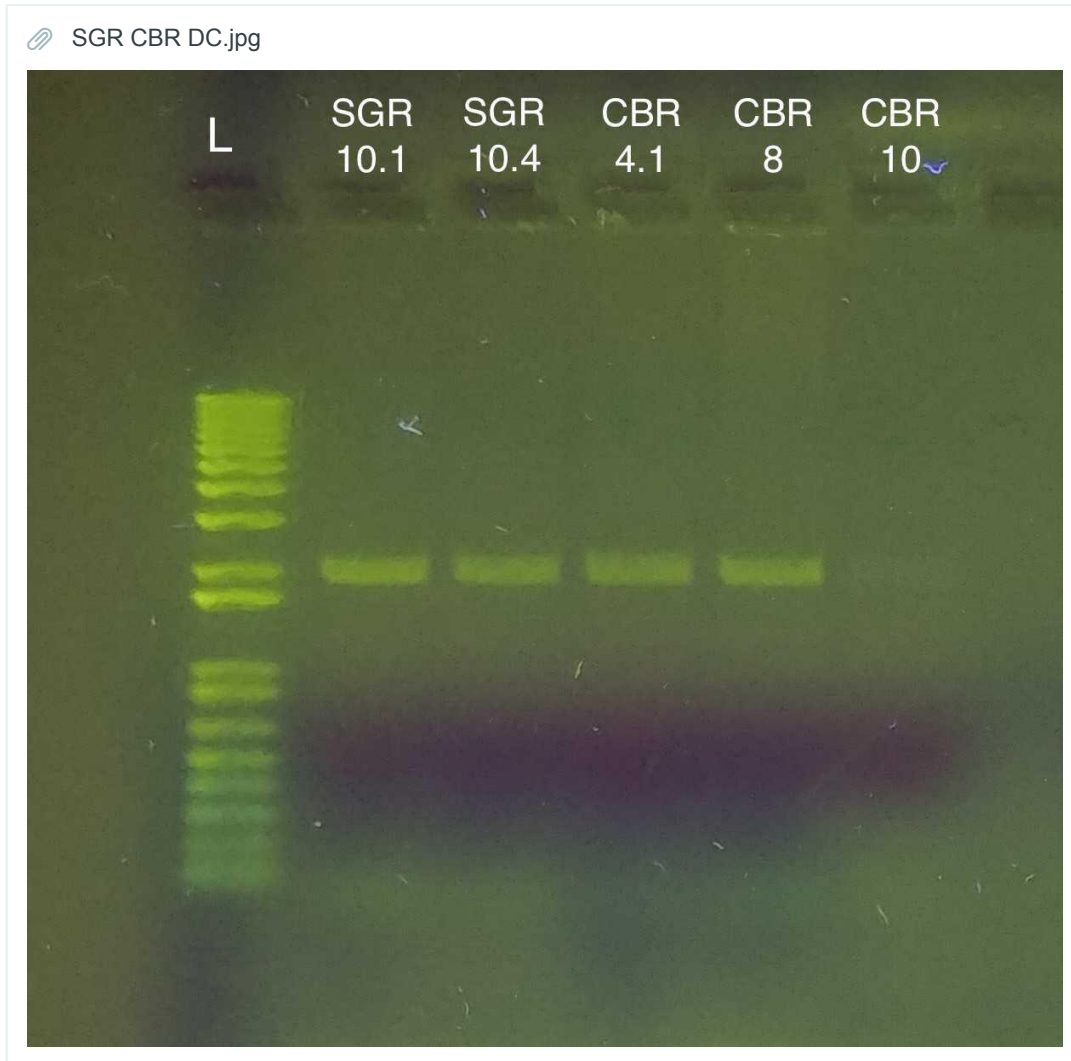

Figure 3. SGR 10.1, 10.4 and CBR 4.1, 8, 10 Digest Confirmation w/ EcoRI-HF and PstI
**Figure 3.** 1% Agarose gel of pSB1C3-SGR cPCR reactions and SGR gBlocks ran at 100V for 30 min. cPCR reactions used VR and VF2 primers and proceeded as per the "colony PCR" protocol. pSB1C3-SGR ligation products (#AMOUNTOFDNA) that were ligated in a 1:1 (insert:backbone) ratio were transformed into chemically competent DH5 $\alpha$  cells as per the "Bacterial Transformation" protocol. Also shown, SGR gBlock which has been PCR amplified as per the "PCR" protocol. This gel also ran several ladders to test the efficacy of the ladder stocks in our lab. Top Row: Ladder - NEB 1kb plus | Lanes 7-16: pSB1C3-SGR | Lane 17: Ladder - NEB 1kb plus. Bottom Row: Ladder - NEB 1kb plus| Lanes 3-4: PCR SGR | Lane 6: Ladder - Invitrogen 1 kb plus | Lane 8: Invitrogen 1kb plus | Lane 9: Gene ruler 1 kb plus.
- Made digest confirmations for SGR 10.1, 10.4 and CBR 4.1, 8, 10 Minipreps from 07/03 Wednesday; Based on the bands they did not work and only have the vector (unligated products) (see Figure 3). The PCR and Digest confirmations disagree, potentially because primer used could be amplifying gene on non-specific amplification.